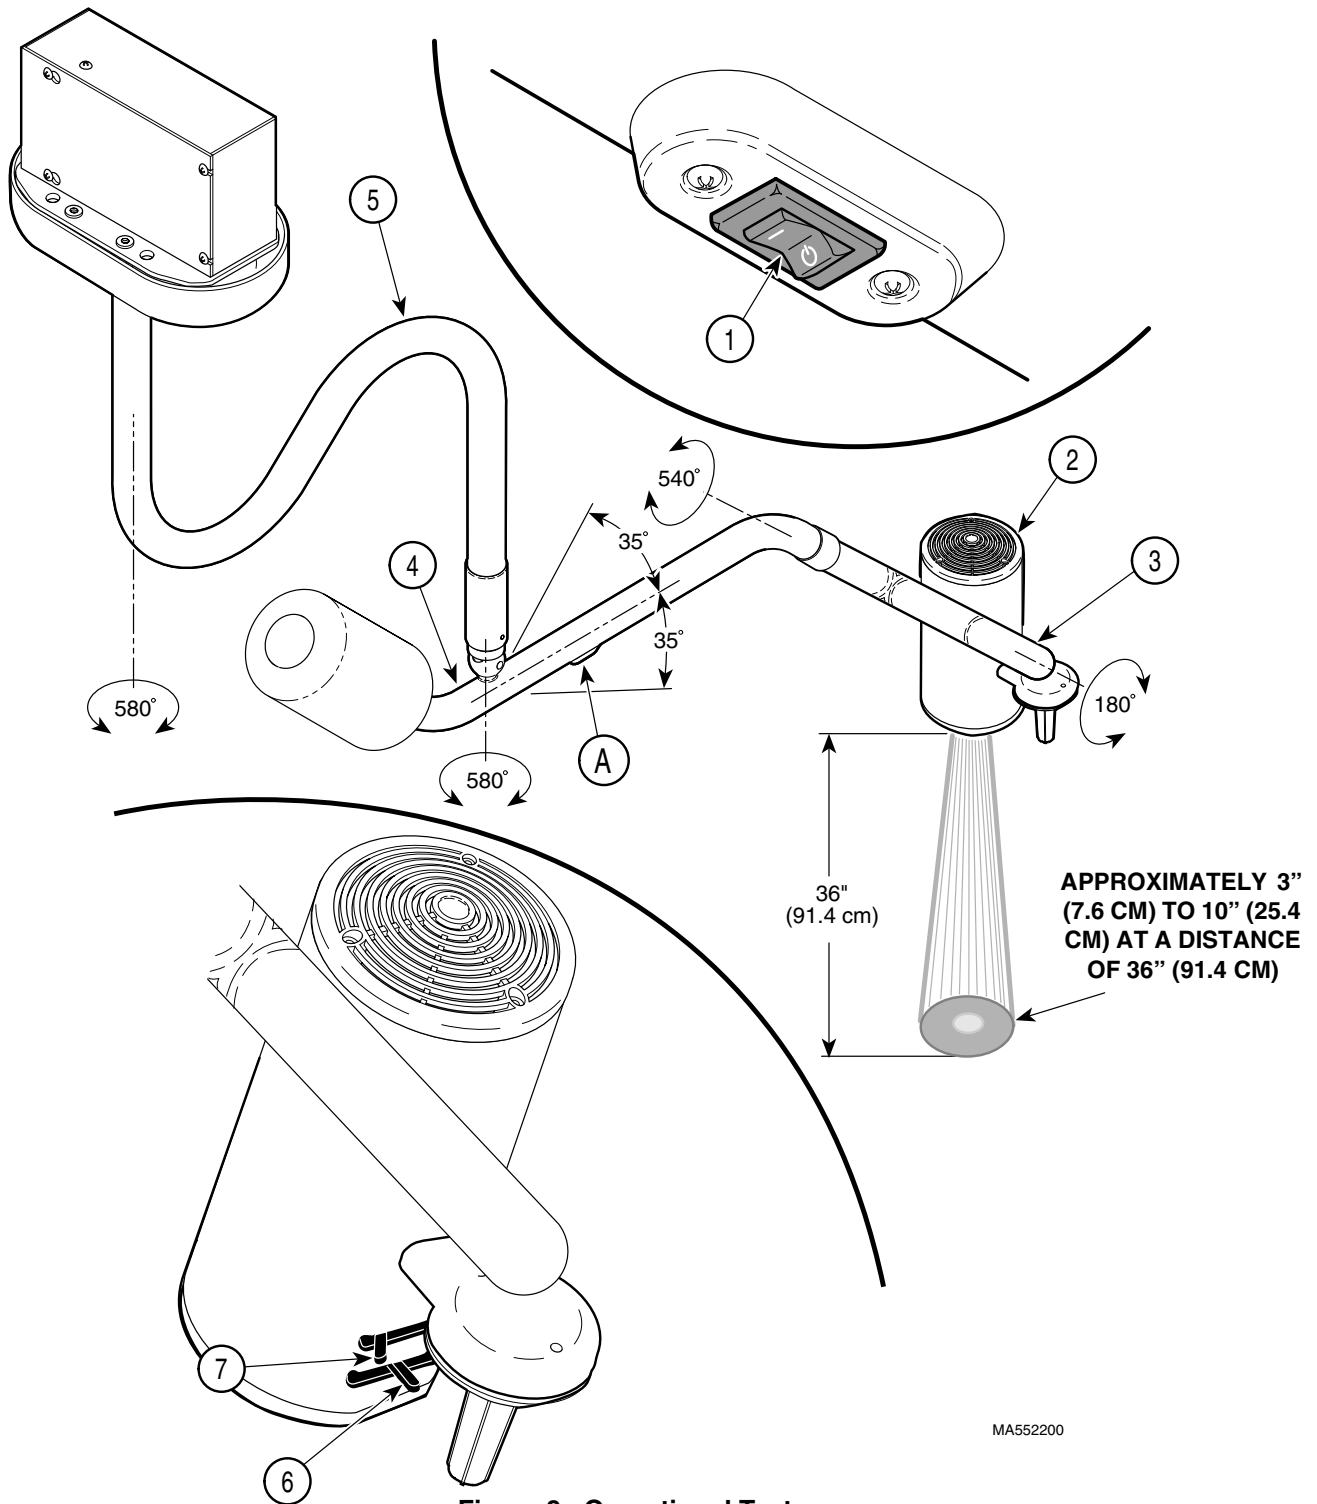

Figure 9. Operational Test
- (1) Turn the ON / STANDBY switch (1, Figure 9) to ON "I".
- (2) Observe. The lighthouse (2) should illuminate and the fan in the back of the lighthouse should be operating.